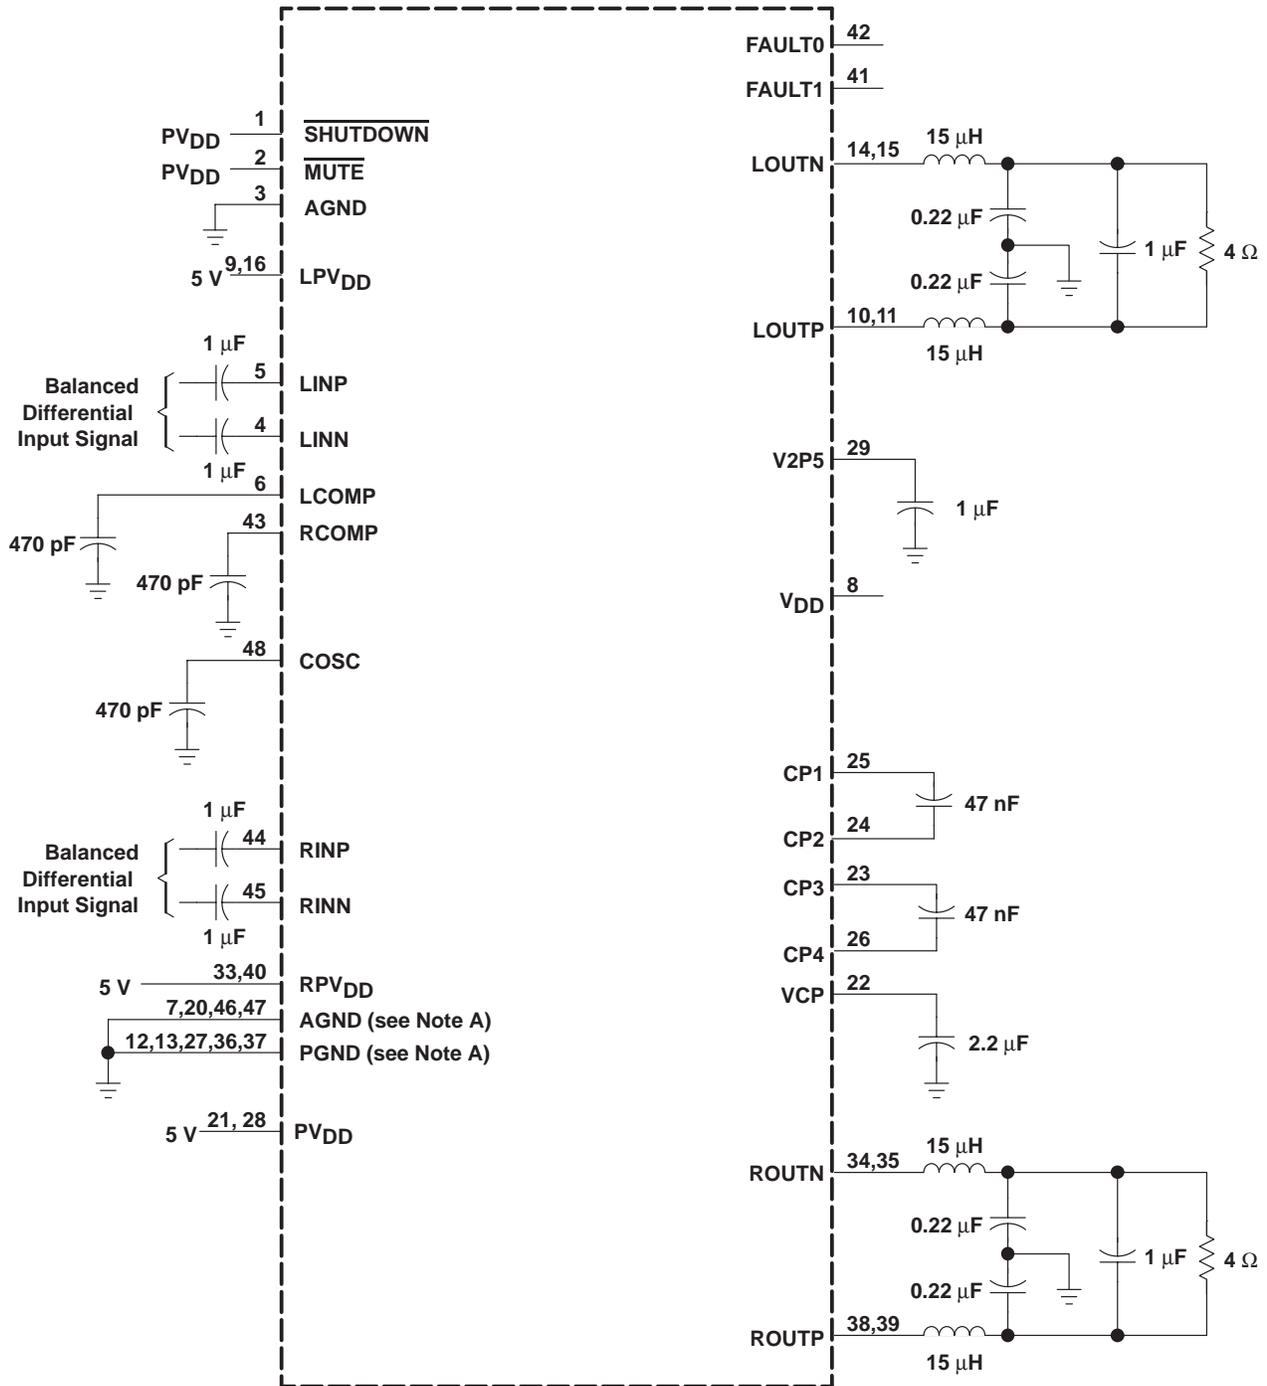

Figure 1. 5-V, 4- $\Omega$  Test Circuit, Class-D Amplifier
**electrical characteristics, Class-D amplifier,  $V_{DD} = PV_{DD} = LPV_{DD} = RPV_{DD} = 5\text{ V}$ ,  $R_L = 4\ \Omega$ ,  $T_C = 25^\circ\text{C}$ , See Figure 1 (resistive load) (unless otherwise noted)**
**operating characteristics, Class-D amplifier,  $V_{DD} = PV_{DD} = LPV_{DD} = RPV_{DD} = 5\text{ V}$ ,  $R_L = 4\ \Omega$ ,  $T_C = 25^\circ\text{C}$ , See Figure 1 (unless otherwise noted)**